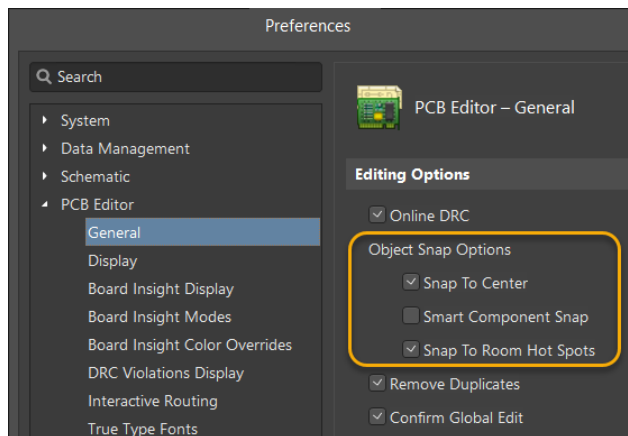

Figure 18. PCB Preferences
- b) Under the *Object Snap Options* section, enable **Snap To Center** as shown in Figure 18.